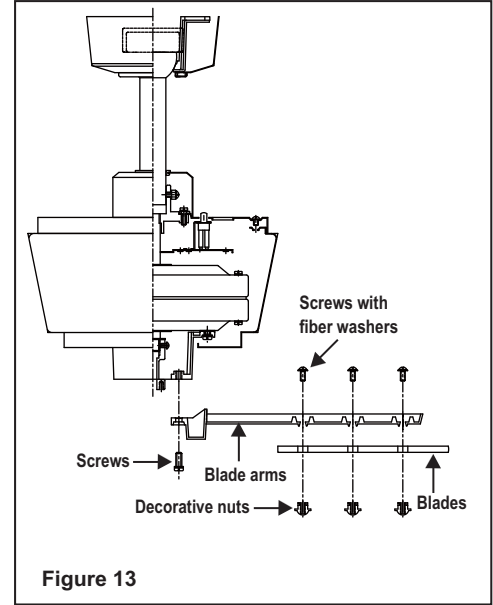

Figure 13
**Step 1.** Attach the blades to the blade arms using three decorative nuts, screws and fiber washers as shown in Figure 13. Start a screw into the blade arm, do not tighten. Repeat for the 2 remaining screws and washers.